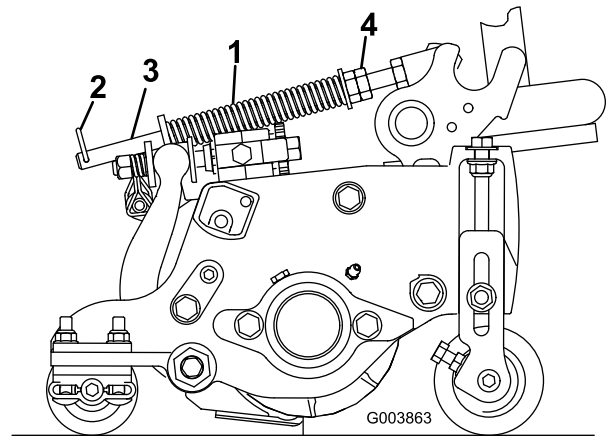

Figure 16
The turf-compensation spring (Figure 16) transfers the weight from the front to the rear roller. This helps to reduce a wave pattern in the turf, also known as marcelling or bobbing.
1. Make sure that the hairpin cotter is installed in the rear hole in the spring rod (Figure 16).
2. Tighten the hex nuts on the front end of the spring rod until the compressed length of the spring is 12.7 cm (5 inches) for 5-inch cutting units or 15.9 cm (6.25 inches) for 7-inch cutting units (Figure 16).